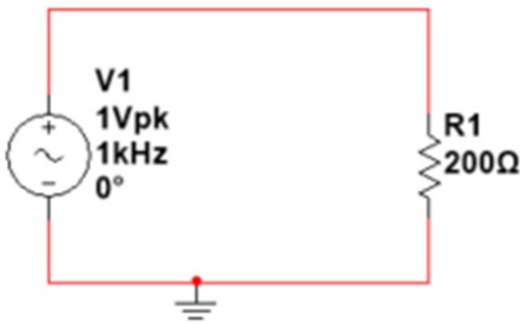

Figure 1.1b - Oscilloscope Testing Circuit
2. **Assemble** the circuit shown in Figure 1.1b.